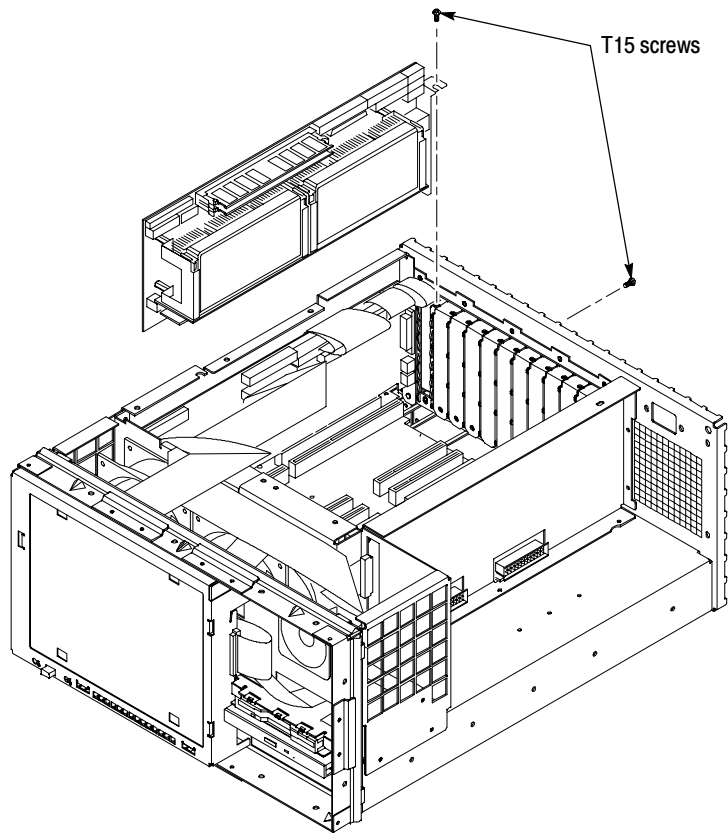

Figure 4: Controller board orientation and screw locations
2. Remove the two T15 screws that hold the controller board to the mainframe chassis (see Figure 4 for the screw locations).
1. Remove the two T15 screws that hold the I/O board to the mainframe chassis (one on top and the other in the rear panel, similar to the position shown for the controller board in Figure 4).
10. Attach the controller board brackets to the mainframe chassis with two T15 screws each (see Figure 4). Torque the screws to 8 in-lbs.
11. Attach the I/O board bracket to the mainframe chassis with two T15 screws (one on top and the other in the rear panel, similar to the position shown for the controller board in Figure 4). Torque the screws to 8 in-lbs.